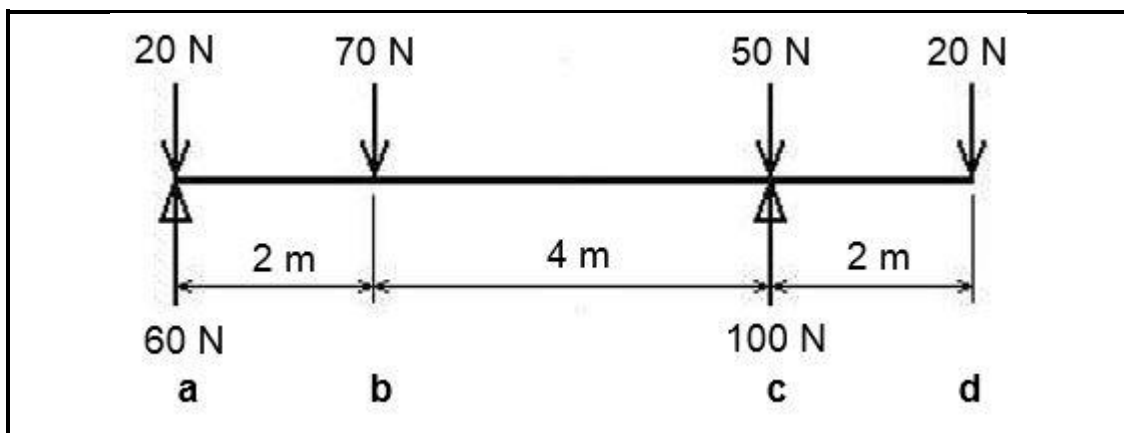

FIGURE 5.3
- 5.3 FIGURE 5.3 shows a beam with pointed loads. Calculate the bending moment values of point a to d. (4)